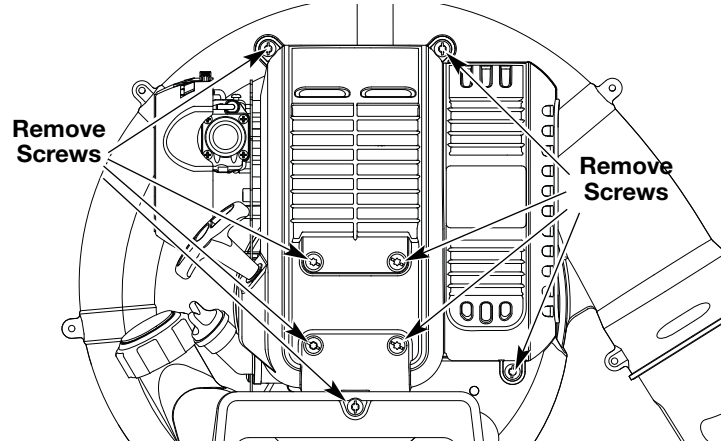

Fig. 30
1. Remove the eight (8) screws on the back of the engine cover with a Flat-head or T-25 Torx screwdriver (Fig. 30).
4. Remove the engine cover (Fig. 30).
- Stop the engine and allow it to cool. Remove the eight (8) screws on the back of the engine cover with a Flat-head or T-25 Torx screwdriver (Fig. 30).